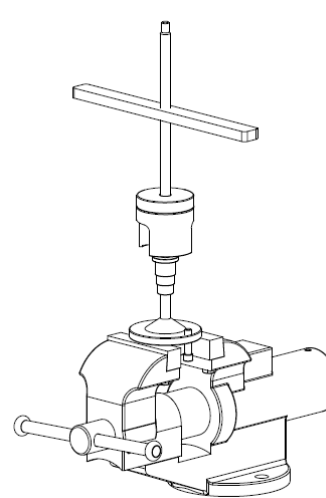

Figure 19
Use the disassembly tool see (figure 19), next page to disassemble the cam ⑧. The pulley is spring loaded with significant amount of force, the use of the disassembly tool will keep the pulley compressed.
- Using a vice, mount the disassembly tool as shown in figure 19.